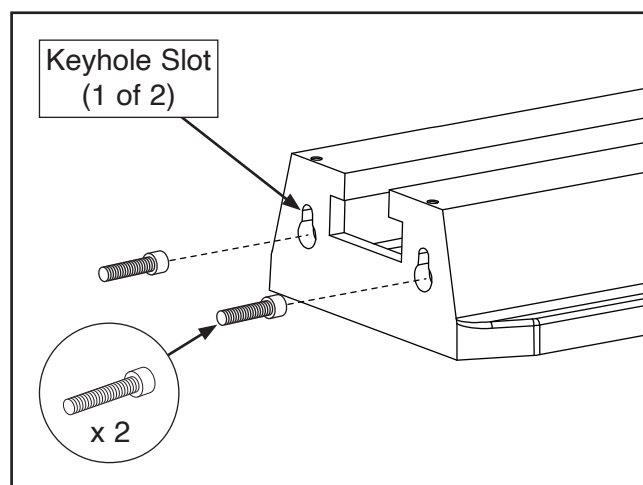

Figure 2. Attaching bed extension.
2. Remove (2) button head cap screws and (2) flat washers securing tool holder to tailstock end of lathe bed.
3. Thread (2) M8-1.25 x 25 cap screws approximately halfway into tailstock end of lathe bed
4. Align cap screws with bottom of keyhole slots (see **Figure 2**), then slide bed extension onto cap screws.